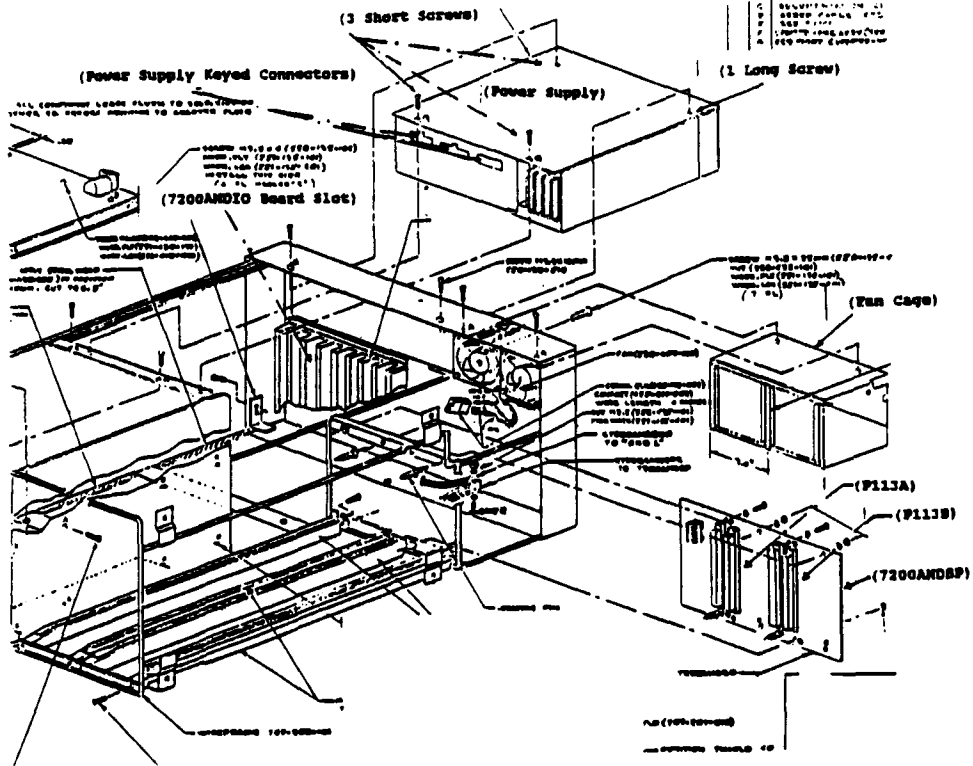

Figure F-6.
- Remove 4 screws on the power supply (3 short, 1 long). Refer to figure F-6.
- Remove power supply by first sliding it carefully out to the rear of unit, second disconnect the 3 cables then remove the supply. (Refer to figure F-6)
- Install power supply back with the 4 screws. The long screw in the right, rear (@ the front of the 7200A). Refer to figure F-6.